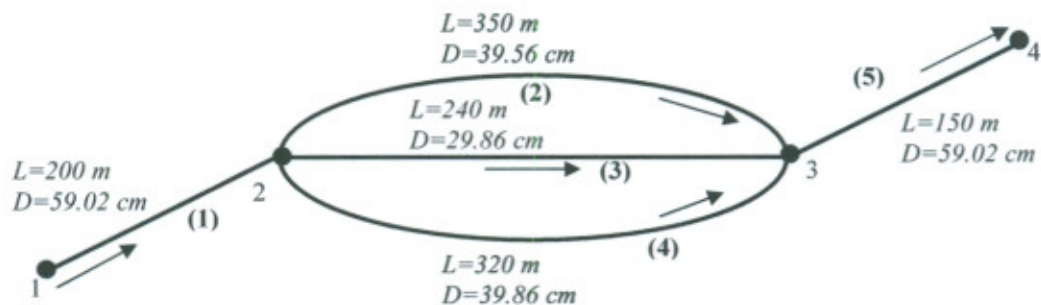

Figure 4:
Oil with dynamic viscosity of $\mu = 0.3 \text{ N} \cdot \text{s}/\text{m}^2$ and density of $\rho = 900 \text{ kg}/\text{m}^3$ flows through the piping network shown in the accompanying figure 4. Determine the pressure distribution in the system if the flow rate at node 1 is $20 \times 10^{-4} \text{ m}^3/\text{s}$. For the given conditions, the flow is laminar throughout the system. We assumed that the pressure at node 1 is 39.182 kPa and at node 4 is -3.665 kPa .
- Form a Table to discretize the given piping network of figure 4 into 5 elements and 4 nodes, as numbered.